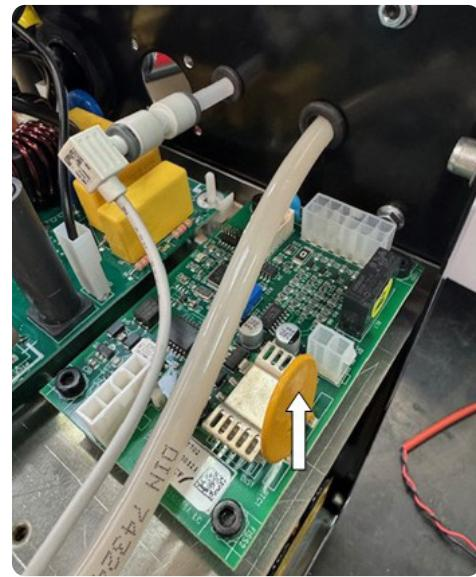

Fig. 2
- ◆ Fix the 5602702 CNC interface circuit (pos.1) to the four spacers using the 4 M4 screws supplied as indicated in fig.2